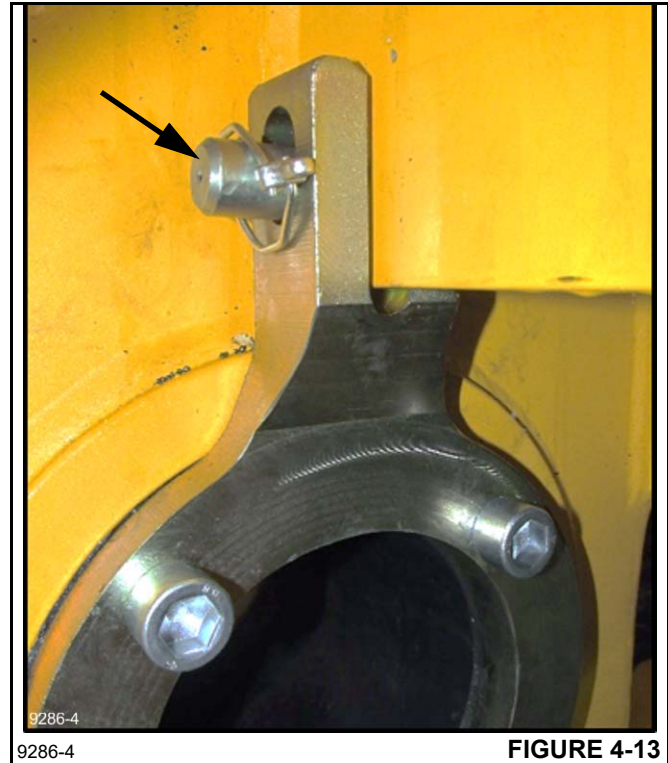

FIGURE 4-13
7. Reach in access hole at top of boom, install pins on stop plates already installed on back of mounting pins (Figure 4-13).